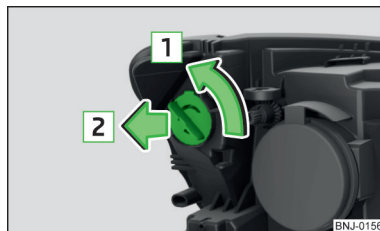

Fig. 298
- Turn the holder with the bulb in the direction of the arrow **1** » Fig. 298.